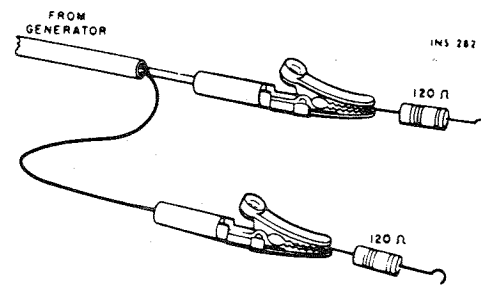

FIGURE 1. CONNECTIONS TO PROVIDE 300-OHM GENERATOR OUTPUT IMPEDENCE. MATCHING RESISTORS REDUCE GENERATOR VOLTAGE BY HALF AT THE ANTENNA TERMINALS.
(2) Connect DC VTVM to Test Point 301 on the IF board. (3) Connect an RF generator to the NORM antenna terminals. Use a 120-ohm composition resistor in series with each lead from the generator—see Figure 1.
(4) Set RF generator frequency and TUNING dial pointer to 90 MHz (Mc). DO NOT USE MODULATION (AM or FM) and keep the generator output as low as possible during the alignment procedure.
(5) Align FM oscillator coil (L503) core first—then align the FM RF coil (L502) and the FM antenna coil (L501) cores for maximum reading on DC VTVM.
(6) Set generator frequency and TUNING dial pointer to 106 MHz (Mc).
(7) Adjust FM oscillator trimmer (C518) first—then adjust the FM RF trimmer (C511) and the FM antenna trimmer (C501) for maximum reading on DC VTVM.
(8) Repeat alignment several times until accurate dial calibration and maximum gain are obtained. Keep the generator output as low as possible during all adjustments.